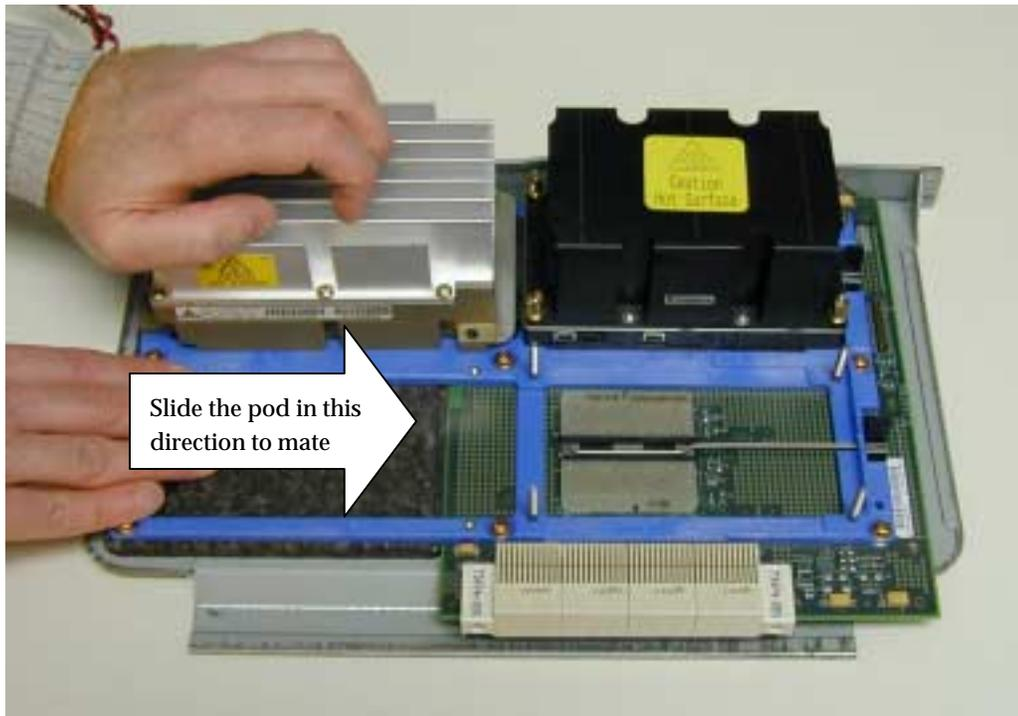

Figure 24 Replacing the power pod
1. Locate the processor power pod and four (4) (6-32 .5 inch) Phillips-head screws.
4. Fasten the power pod to the retention device with four (4) Phillips-head screws. Refer to Figure 24.